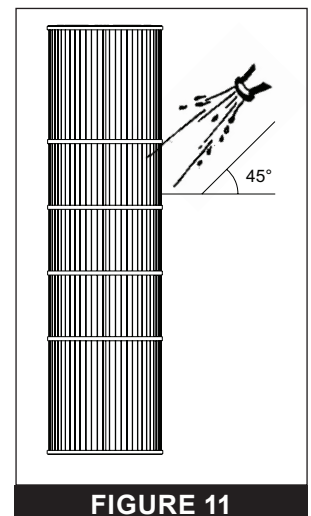

FIGURE 11
5. Using a garden hose with a straight flow nozzle, hold the nozzle at a 45-degree angle to the cartridge and wash the entire cartridge from top to bottom. Refer to **FIGURE 11**.
9. Using a garden hose with a straight flow nozzle, hold the nozzle at a 45-degree angle to the cartridge and wash the entire cartridge from top to bottom. See **FIGURE 11**, page 7.